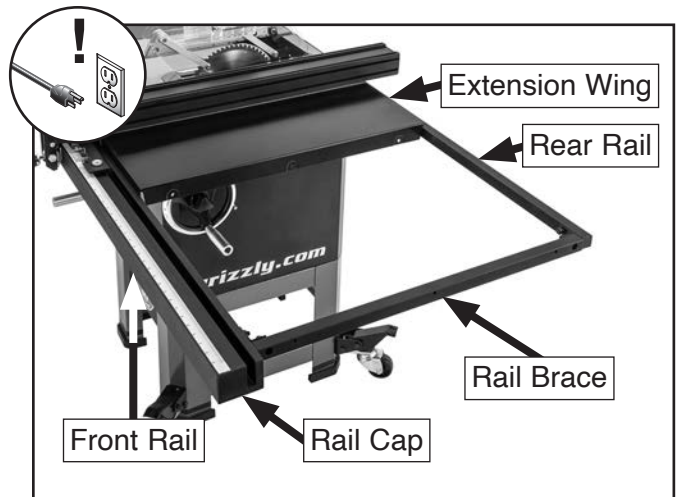
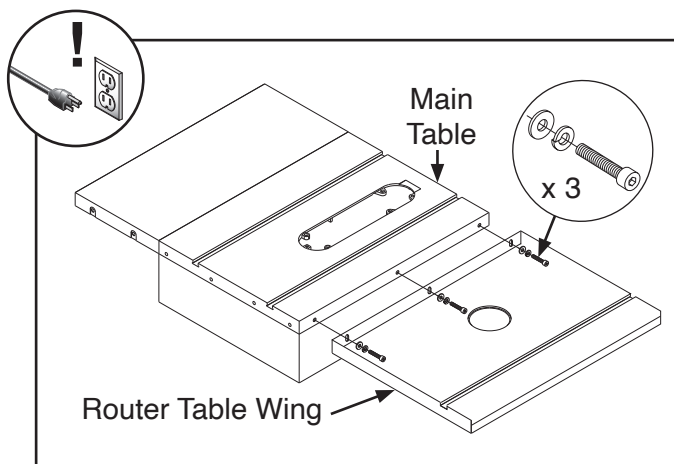

Figure 6. Components on Model G0962A40.
Figure 14. Attaching router table wing to main table.
3. Remove cap screw and hex nut from right-hand side of rear rail, then remove tap screw and rail cap on right-hand side of front rail, and remove rail brace (see **Figure 6**).
4. Remove (8) hex nuts securing front rail to table saw (see **Figure 6**), then remove front rail. Be careful not to stretch wires connecting ON/OFF switch to motor.
5. Remove (8) cap screws and (4) hex nuts securing rear rail to table saw (see **Figure 6**).
3. Remove cap screw and hex nut from right-hand side of rear rail, then remove tap screw and rail cap on right-hand side of front rail, and remove rail brace (see **Figure 6** on **Page 10**).
4. Remove (8) hex nuts securing front rail to table saw (see **Figure 6** on **Page 10**), then remove front rail. Be careful not to stretch wires connecting ON/OFF switch to motor.
5. Remove (2) of (8) hex bolts from rail so (6) hex bolts remain in fence rail.
6. Remove (8) cap screws and (4) hex nuts securing rear rail to table saw (see **Figure 6** on **Page 10**).
7. Remove (3) cap screws, flat washers, and lock washers securing table saw extension wing to main table on right-hand side of saw. Set fasteners and extension wing aside for later use.
9. Attach router table wing to table saw main table on right-hand side of saw with (3) M10-1.5 x 35 cap screws, 10mm lock washers, and 10mm flat washers, as shown in **Figure 14**. Hand-tighten for now.